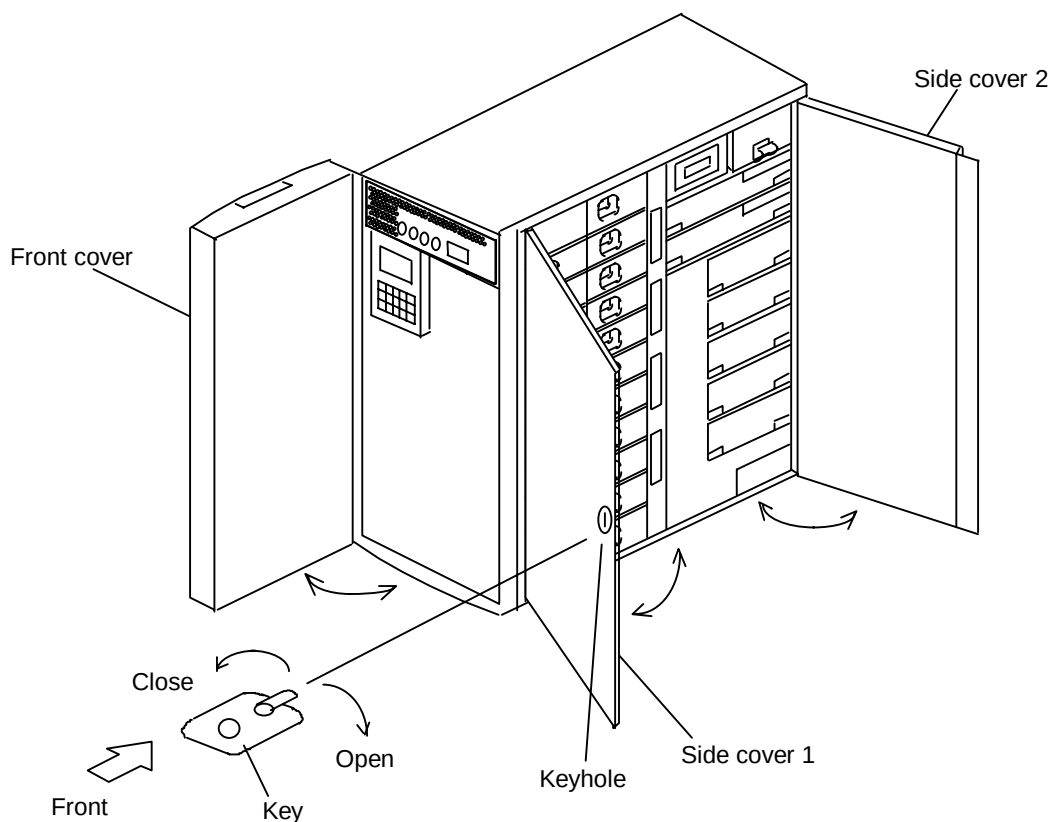

Figure 3.2.9 Opening/Closing Front and Side Covers
(1) Opening/Closing the front cover (See Figure 3.2.9.)
- ① Pull the right side of the front cover toward you to open it.
- ② Push it back slowly to close it.
(2) Opening/Closing the side covers (See Figure 3.2.9.)
- ① Insert the key attached to the subsystem into the keyhole and turn it to the direction of an arrow (clockwise). Carefully open side cover 1 first, then open side cover 2.
- ② Carefully close side cover 2 first, and then close side cover 1. Finally, turn the key to the direction of an arrow (counterclockwise).